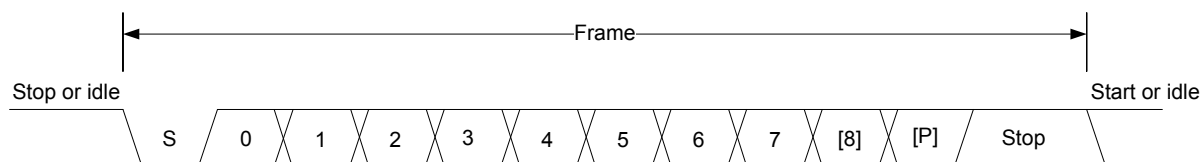

Figure 19.2. LEUART Asynchronous Frame Format
The frame format used by the LEUART consists of a set of data bits in addition to bits for synchronization and optionally a parity bit for error checking. A frame starts with one start-bit (S), where the line is driven low for one bit-period. This signals the start of a frame, and is used for synchronization. Following the start bit are 8 or 9 data bits and an optional parity bit. The data is transmitted with the least significant bit first. Finally, a number of stop-bits, where the line is driven high, end the frame. The frame format is shown in Figure 19.2 LEUART Asynchronous Frame Format on page 619.